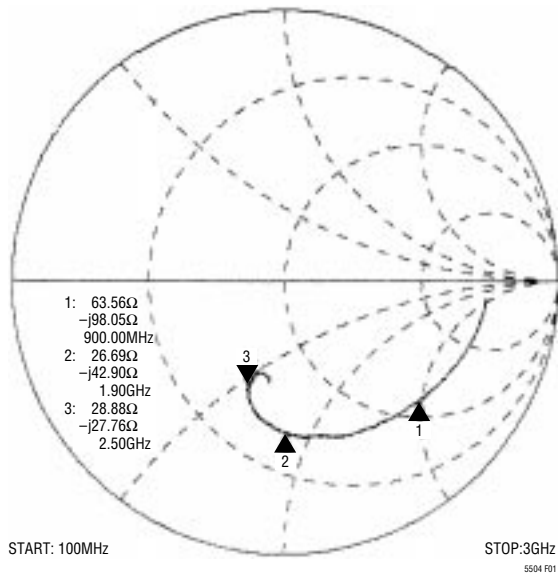
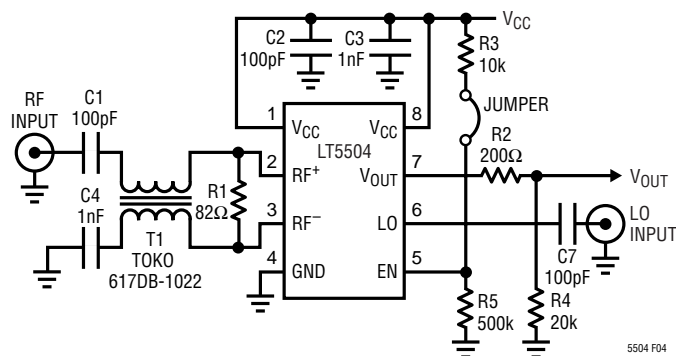

Figure 1. Differential RF Input Impedance
Figure 5. LT5504 Evaluation Board Circuit Schematic
**Note 2:** Tests are performed as shown in the configuration of Figure 5.
**Note 6:** Refer to Figure 1 and Applications Information.
The differential input impedance of the RF limiter is shown in Figure 1. A 1:1 input transformer can be used to achieve 50Ω broadband matching with an 82Ω shunt resistor (R1) at the inputs as shown in Figure 5.
The LT5504 can be used as a demodulator for AM and ASK modulated signals with data rates up to 5MHz. Depending on specific application needs, the RSSI output can be split into two branches, providing AC coupled data output, and DC coupled, RSSI output for signal strength measurements and AGC. Refer to Figure 5.